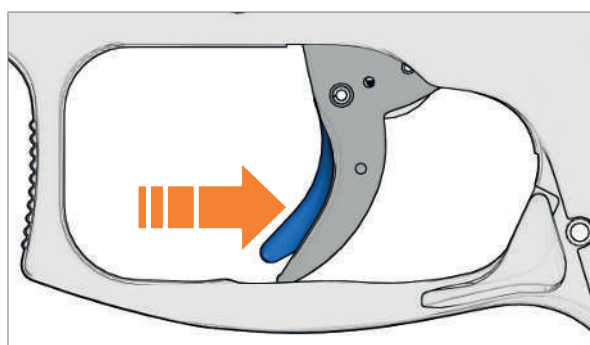

Fig. 22: Push trigger safety towards the rear
2. Push trigger safety and trigger towards the rear (Fig. 22).